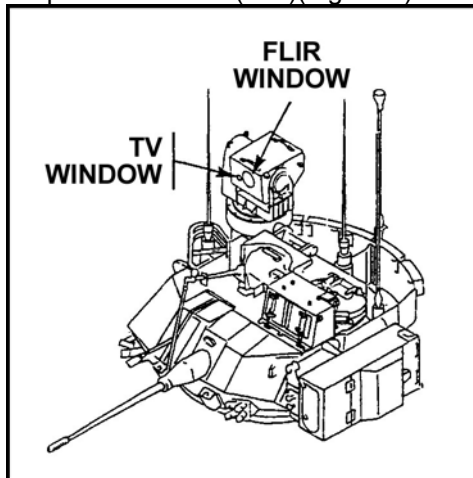

Figure 1. Commander's independent viewer.
**Standards:** Operated the commander's independent viewer (CIV), the commander's sight control panel, and the target designate (TD) function and caused no damage to equipment or injury to personnel.
1. Operate the commander's independent viewer (CIV)(Figure 1).